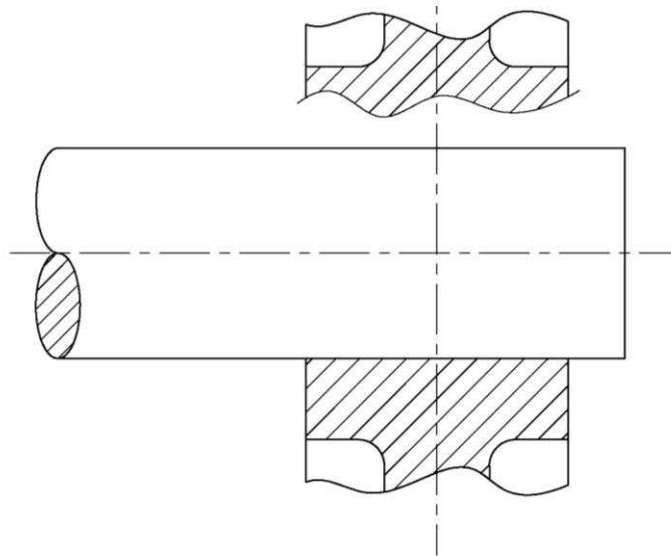

Figure 2
- a) State the technical terms for the groove referred as (i) and (ii) in the above statement. (1)
- i) the use of a key; (1)
- ii) why the key may act in a safety capacity. (1)
- c) Draw a sectional view of a sunk key and the upper half of a shaft with the suitable proportions used for assembly drawings. (1)
- d) Produce a neat, well-proportioned 2-D sectional view (see Figure 2) showing the profile of a:
- i) gib head key on a 50 mm diameter shaft; (3)
- ii) feather key on a 50 mm diameter shaft. (3)